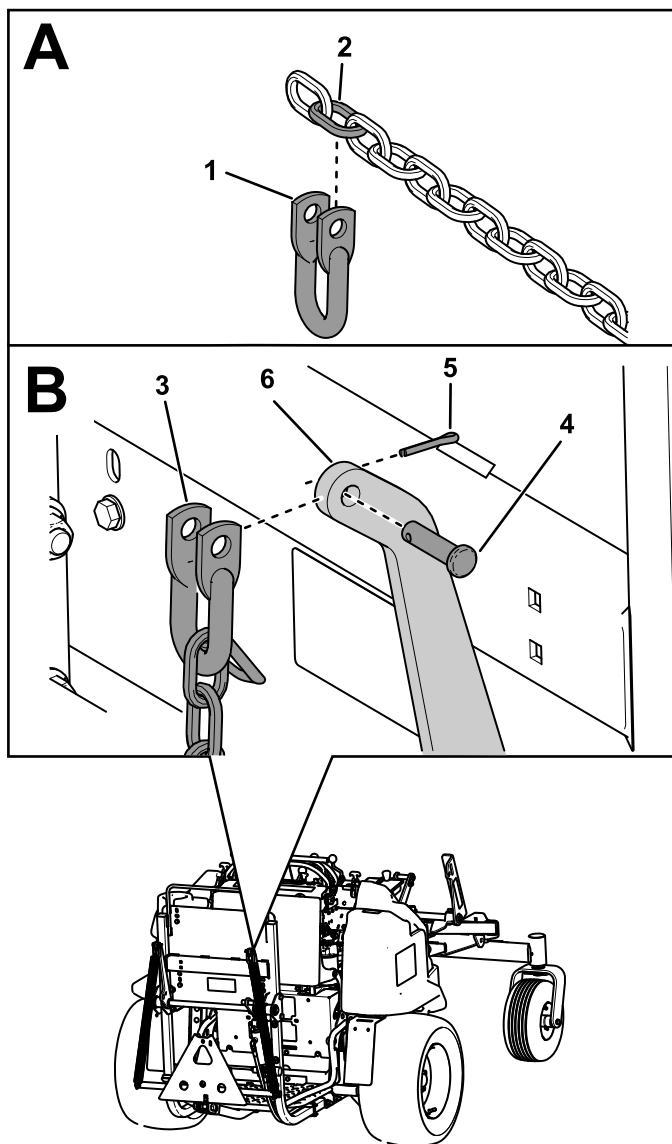

Figure 9
1. Connect the second link of the long rear-lift chains to the top of the lift frame using shackles, clevis pins, and cotter pins (Figure 9).